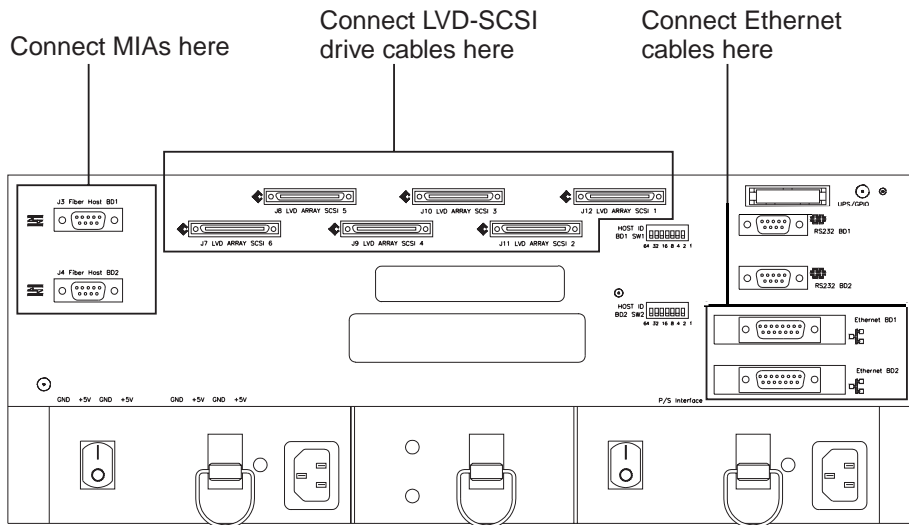

Figure 12. Interface connections on the rear of the controller unit
1. Install a MIA for each RAID controller installed (see Figure 12 on page 19).
3. Connect the LVD-SCSI drive cables (see Figure 12 on page 19).